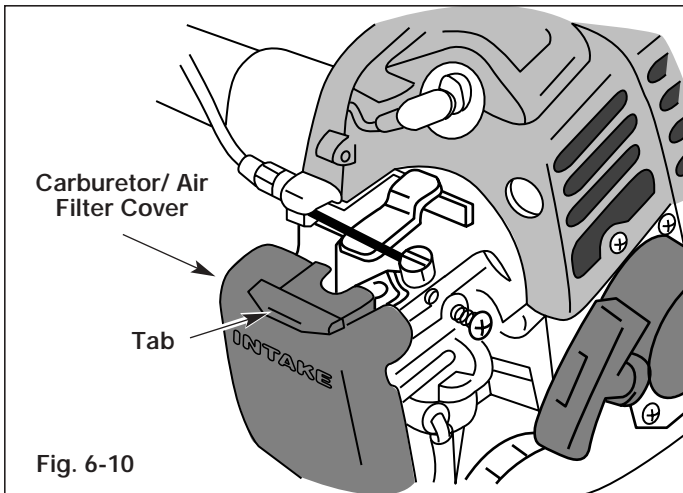
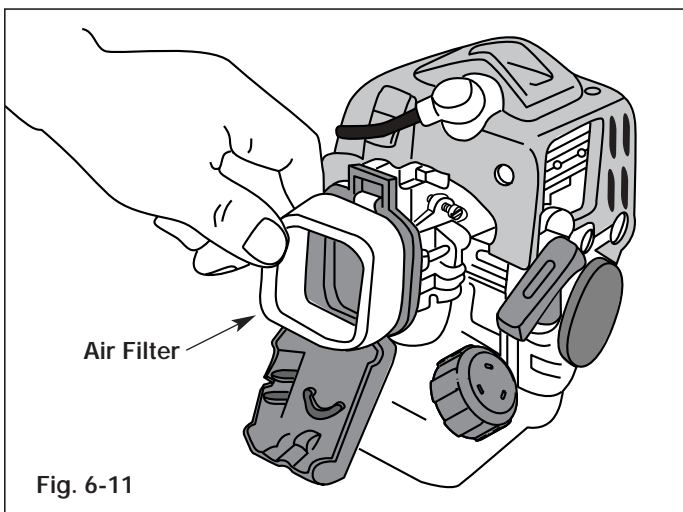

Fig. 6-10
Fig. 6-11
1. Remove the carburetor/air filter cover by pushing on the tab on top of the cover (Fig. 6-10).
2. Remove the air filter (Fig. 6-11).
6. Reinstall the filter (Fig. 6-11) and air filter cover (Fig. 6-10).